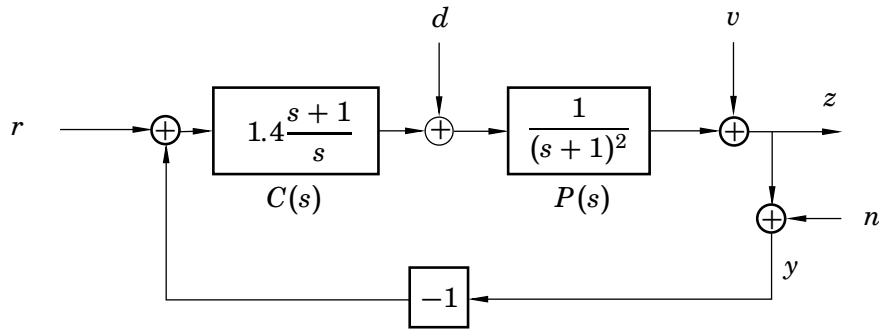

Figure 2.1 System in Problem 2.4
2.4 In Figure 2.1, a feedback system is illustrated.